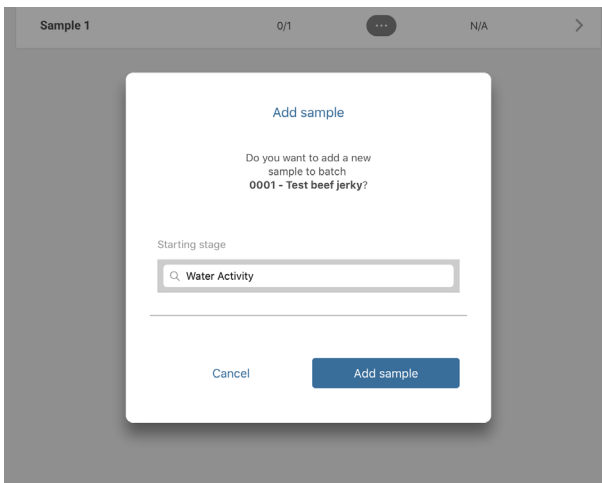

Figure 49 Add sample popup screen
4. Select the plus symbol in the blue circle in the lower left corner of the Batches screen to open the Add sample popup window (Figure 49).
5. Select the **Add sample** button (Figure 49).